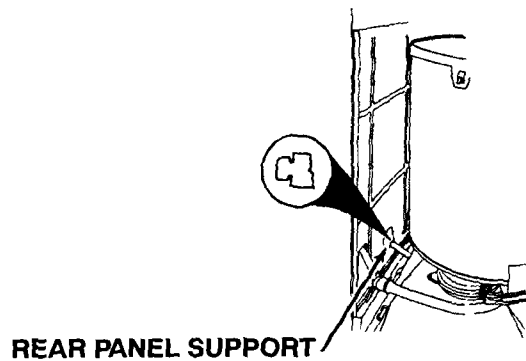

Fig. 53
- The rear panel can be tilted back for additional access to components at rear of machine by twisting the rear panel support 90°, and then tilting the rear panel back. (Fig. 53)